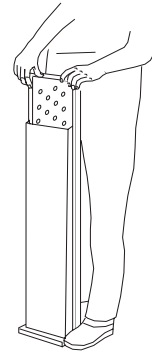

Figure 4-11. Outer Plate Disassembly
3. After removing each air finger, place it in an upright position to remove the outer plate. Gently, step on the lip of the finger manifold and pull the outer plate upward to disassemble it, as shown in Figure 4-11.